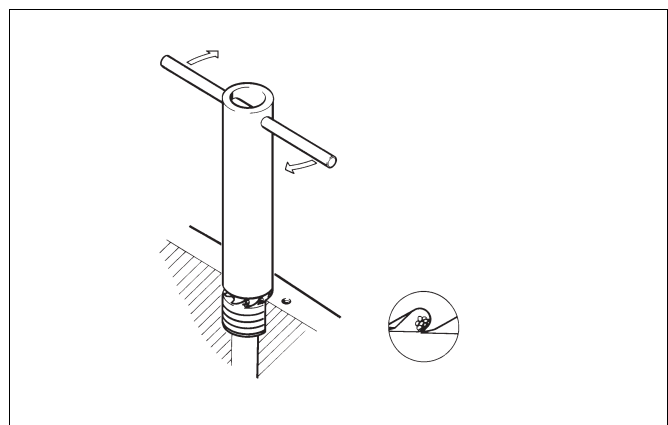

Fig. 8 Using a special tool to remove the gland packing
- Detach the gland (9).
- Remove the old packing rings (69), see Fig. 8.